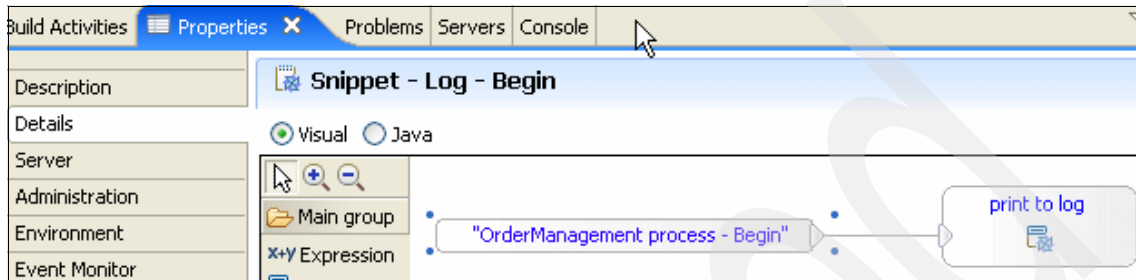

Figure 3-17 Log - Begin snippet
4. In the palette, click **Expression®** and then drag it on to the canvas. Enter `OrderManagement process - Begin` in the expression and then wire the two snippets as shown in Figure 3-17.